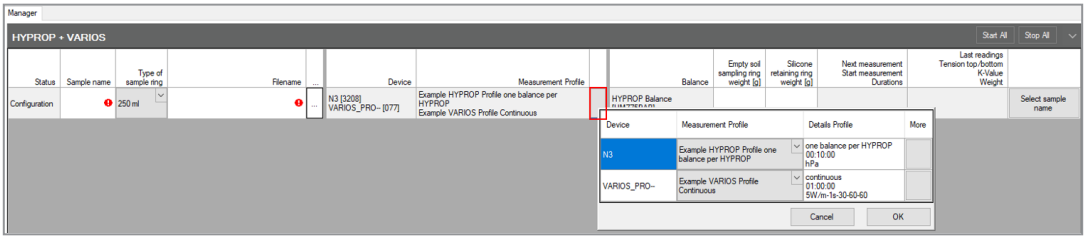

Figure 23 Measurement profiles button
2. Adapt HYPROP and VARIOS measurement profiles by selecting the button marked in Figure 23.